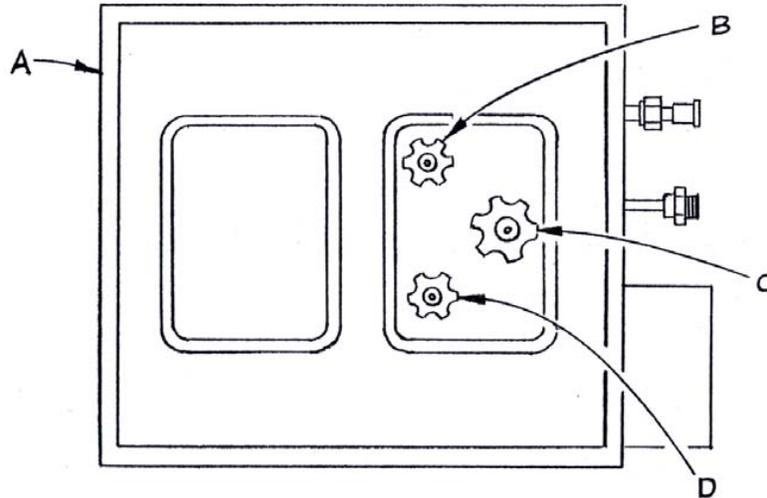

Figure 3-24: Location of Isolation Valves
1. Locate the red hand valves underneath the top panel of the unit. They are labeled COLD GAS FEED, COMMON RETURN, and HOT GAS FEED. (See Figure 3-24.)